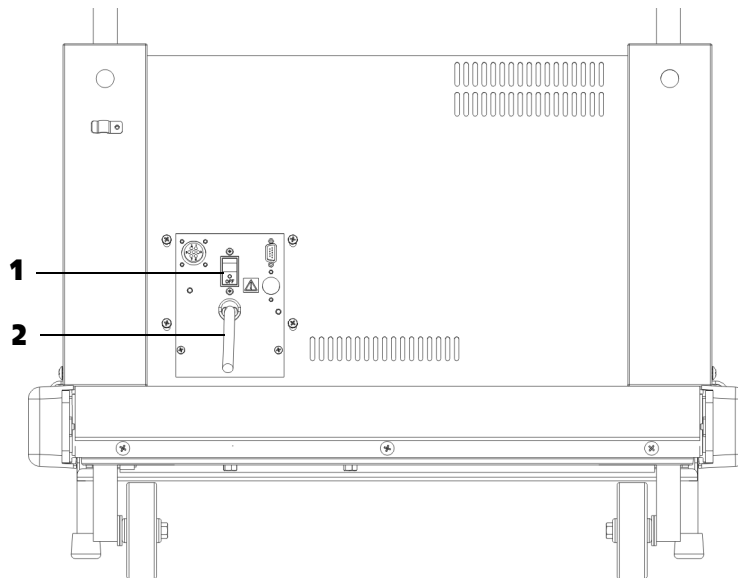

Figure 2-2: Example of Hood configuration Plate for Treadmill
The circuit breaker located on the front of the treadmill hood, controls the power to the treadmill (see item 1 in Figure 2-2). The circuit breaker must be set to ON for the treadmill to run. As long as the treadmill is plugged into a powered socket and the circuit breaker is set to ON, the treadmill is receiving power, even when the monitoring system power is turned off.